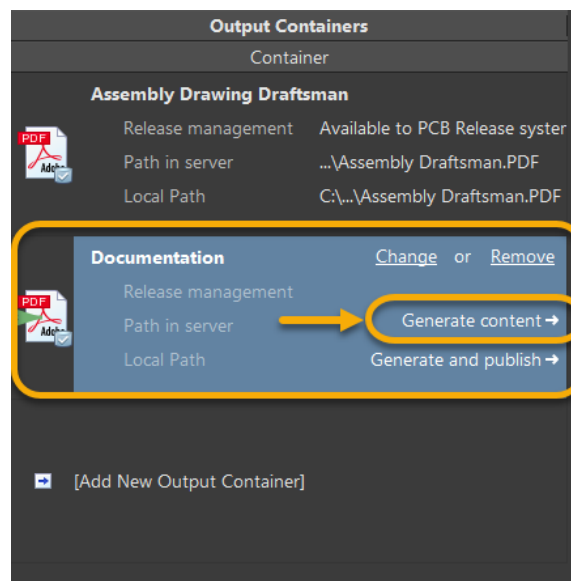

Figure 9. Generating the PDF outputs
31. To create the PDF for Schematic file, highlight the PDF container *Documentation* and click on the **Generate Content** → link as shown in Figure 9.